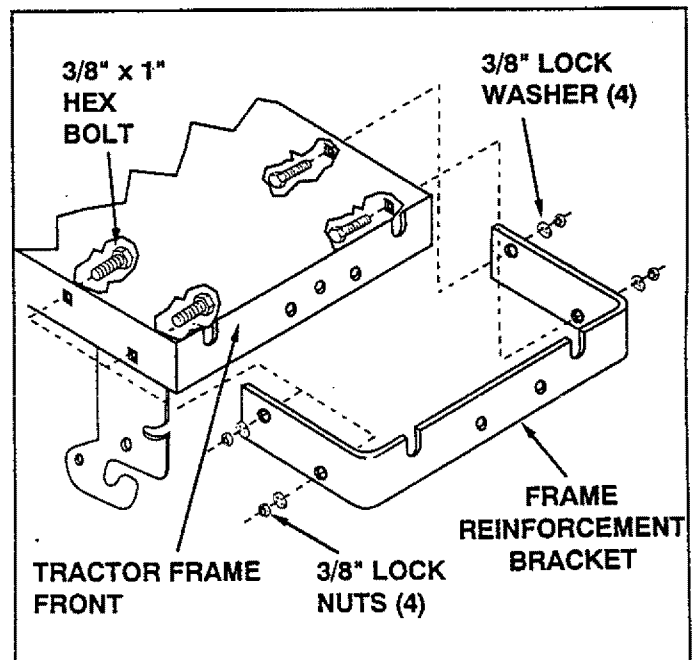

FIGURE 3
- Attach frame reinforcement bracket to front of tractor frame using four 3/8" x 1" hex bolts, four 3/8" lock washers and four 3/8" lock nuts. **Do not tighten.** See figure 3.